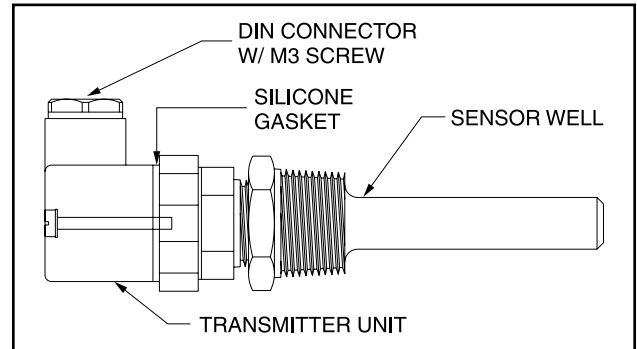

Figure 38 - TEMPERATURE TRANSMITTER
2. Remove DIN connector plug from transmitter. See Figure 38.